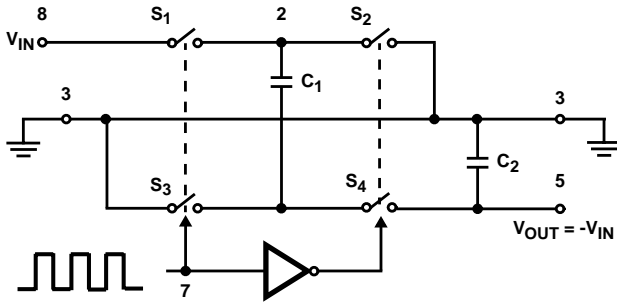
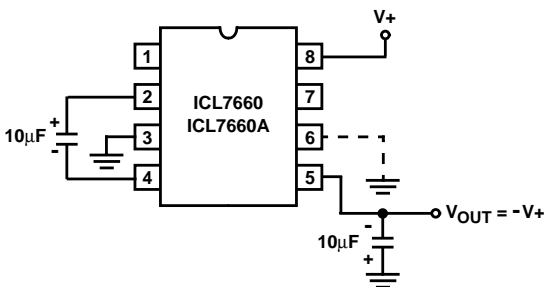

FIGURE 12. IDEALIZED NEGATIVE VOLTAGE CONVERTER
FIGURE 13A. CONFIGURATION
The ICL7660 and ICL7660A contain all the necessary circuitry to complete a negative voltage converter, with the exception of 2 external capacitors which may be inexpensive 10µF polarized electrolytic types. The mode of operation of the device may be best understood by considering Figure 12, which shows an idealized negative voltage converter. Capacitor C_1 is charged to a voltage, $V+$, for the half cycle when switches S_1 and S_3 are closed. (Note: Switches S_2 and S_4 are open during this half cycle.) During the second half cycle of operation, switches S_2 and S_4 are closed, with S_1 and S_3 open, thereby shifting capacitor C_1 negatively by $V+$ volts. Charge is then transferred from C_1 to C_2 such that the voltage on C_2 is exactly $V+$, assuming ideal switches and no load on C_2 . The ICL7660 approaches this ideal situation more closely than existing non-mechanical circuits.
In the ICL7660 and ICL7660A, the 4 switches of Figure 12 are MOS power switches; S_1 is a P-Channel device and S_2 , S_3 and S_4 are N-Channel devices. The main difficulty with this approach is that in integrating the switches, the substrates of S_3 and S_4 must always remain reverse biased with respect to their sources, but not so much as to degrade their "ON" resistances. In addition, at circuit start-up, and under output short circuit conditions ($V_{OUT} = V+$), the output voltage must be sensed and the substrate bias adjusted accordingly. Failure to accomplish this would result in high power losses and probable device latchup.
where V_1 and V_2 are the voltages on C_1 during the pump and transfer cycles. If the impedances of C_1 and C_2 are relatively high at the pump frequency (refer to Figure 12) compared to the value of R_L , there will be a substantial difference in the voltages V_1 and V_2 . Therefore it is not only desirable to make C_2 as large as possible to eliminate output voltage ripple, but also to employ a correspondingly large value for C_1 in order to achieve maximum efficiency of operation.
The output characteristics of the circuit in Figure 13A can be approximated by an ideal voltage source in series with a resistance as shown in Figure 13B. The voltage source has a value of -V+. The output impedance (RO) is a function of the ON resistance of the internal MOS switches (shown in Figure 12), the switching frequency, the value of C1 and C2, and the ESR (equivalent series resistance) of C1 and C2. A good first order approximation for RO is: